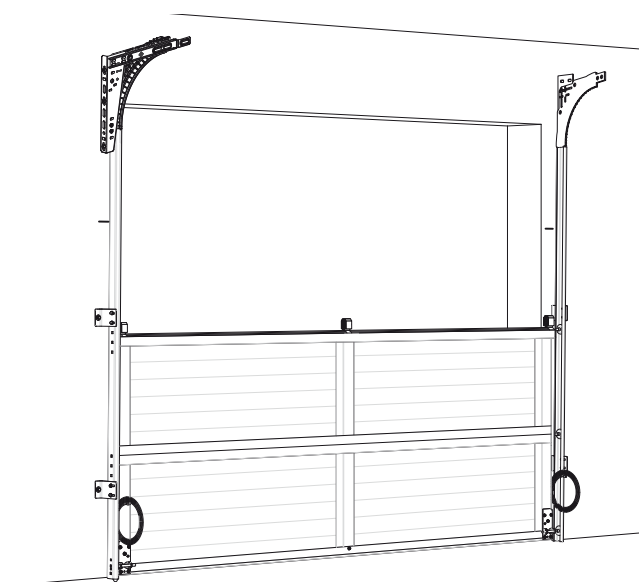

Fig: 3.2.2
- Insert the next panel into the tracks and rest on top of the bottom panel. Fig 3.2.2.